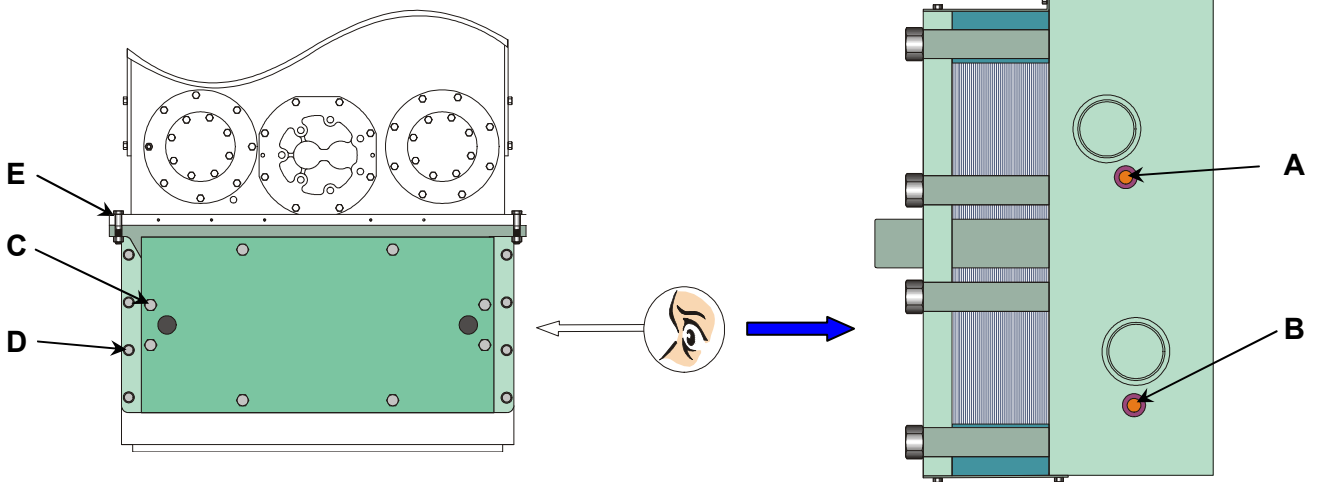

Fig.1 Dismounting of lubricating oil cooler (윤활유 냉각기의 분해)
1. Drain the lubricating oil by loosening the drain plug (B) on oil cooler housing as shown in fig 1
2. Drain the low temperature cooling water by loosening the drain plug (A) on oil cooler housing.